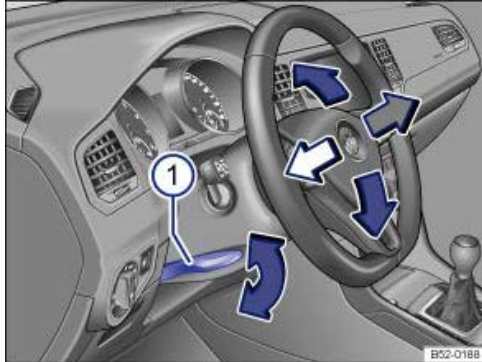

Fig. 64 Below the steering wheel in the steering column trim: lever for mechanical adjustment of the steering wheel position.
- Push down the lever → Fig. 64 Ⓞ .
- After adjusting the steering column, always move lever → Fig. 64 Ⓞ up so that it engages securely. This prevents the steering column from moving spontaneously while the vehicle is in motion.